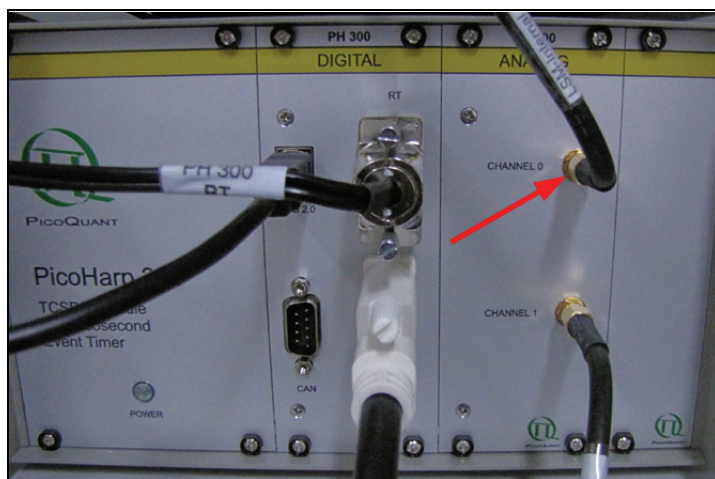

Figure 197: PicoHarp 300 counting unit: At Channel 0, the synchronization cable of the laser used (MP laser or white light laser) is connected
4. Connect the synchronization cable of the MP or white light laser with Channel 0 of the PicoHarp 300 counting unit (**Figure 197**). The connection between Channel 1 and the PHR 800 router can remain.
6. Connect the synchronization cable of the MP or white light laser with Channel 0 of the PicoHarp 300 counting unit (**Figure 197**). The connection between Channel 1 and the PHR 800 router can remain.
5. Connect the MP laser's synchronization cable with Channel 0 of the PicoHarp 300 counting unit (**Figure 197**). The connection between Channel 1 and the PHR 800 router should remain in existence.